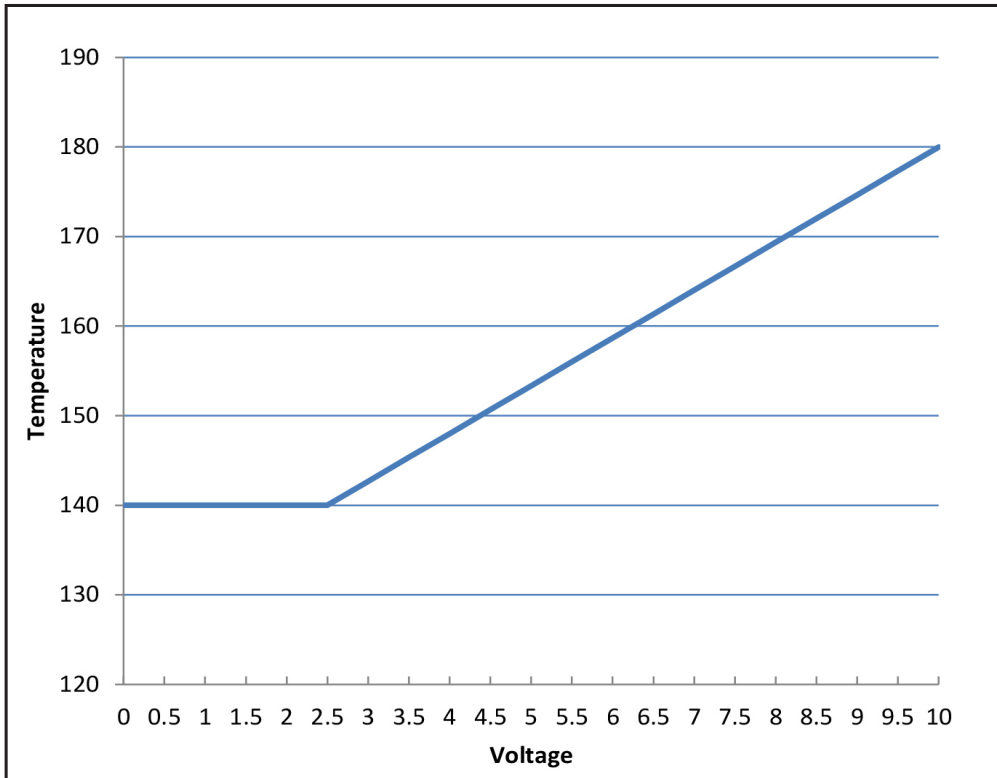

Figure 28. External Set Point Example
- Using the default values for Boiler Max Set Point (180°F), Boiler Min Set Point (140°F), Demand Minimum (2.5VDC), Demand Maximum (10.0VDC), the unit will linearize the set point, as shown in **Figure 28**.